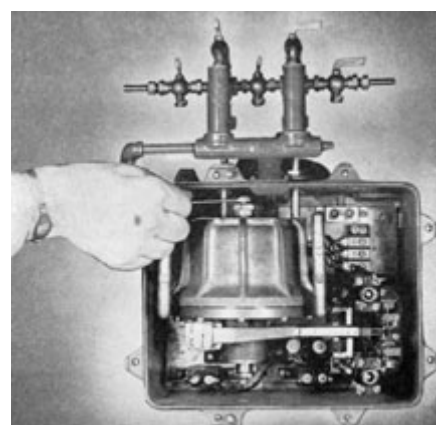

Figure 5-31. Setting upper adjustable stop rod, new installation.
the bellows housing. Using the socket wrench as illustrated in Figure 5-31, loosen the lock nut on the stop rod. Turn the stop rod
**5K10. Setting the upper adjustable stop rod.** (See Figure 5-31.) Remove the pipe plug from the upper end of the case to make the stop rod accessible. Remove the cap from the top of